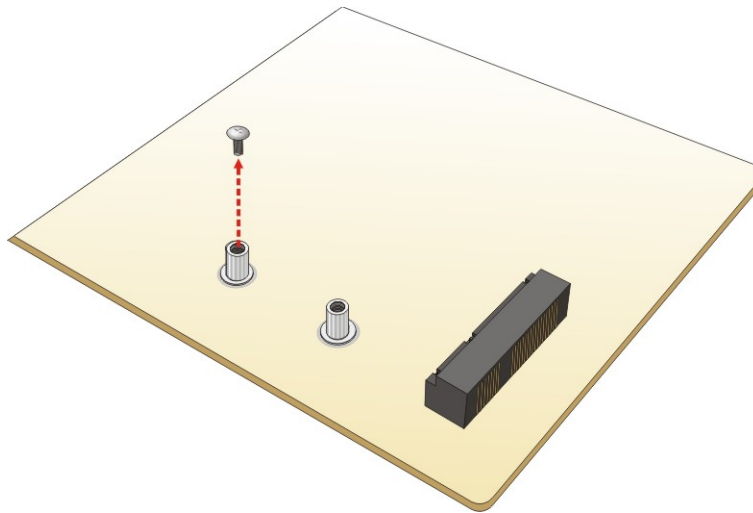

Figure 3-10: Removing the Screw
Step 1: Remove the retention screw as shown in **Figure 3-10**.